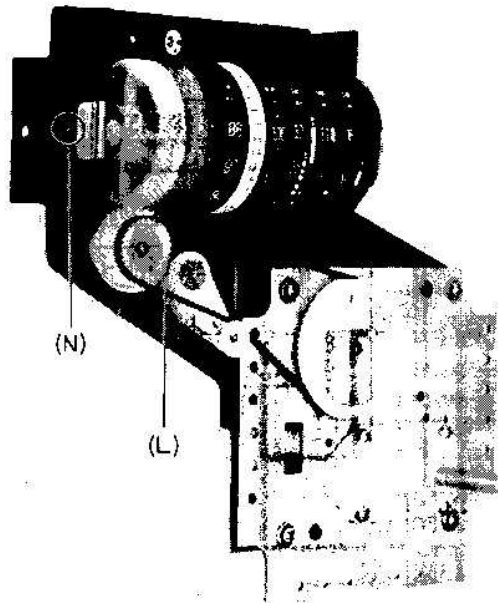

Fig. 7
- Set the dial scale at the position, as shown in fig. 7.